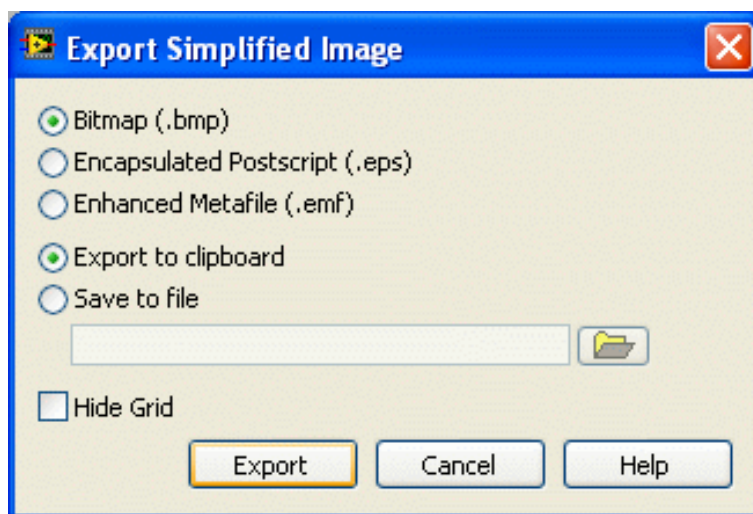

Figure 7.14: Export Simplified Image dialog box
- The dialog box shown in Figure 7.14 opens and gives various image export options. One way is to export the image to the clipboard as a bitmap. This can then be pasted in a graphical software (e.g MS Paint, Irfanview) and saved to a desired format (e.g. png).